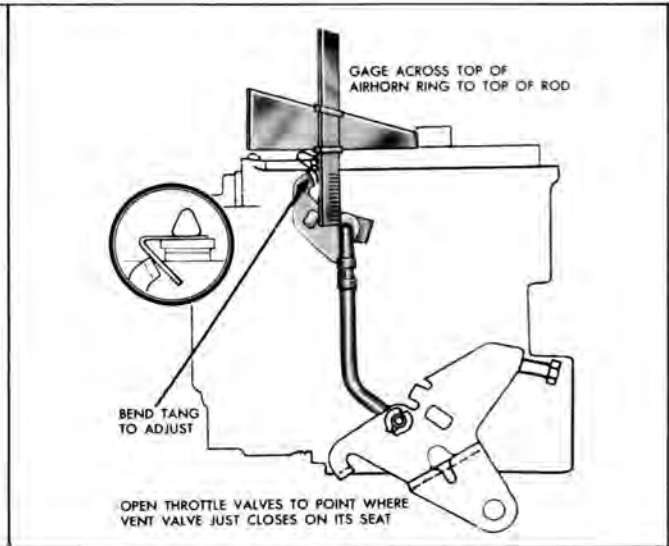

Fig. 12
3. To adjust, bend vent valve actuating tang on the pump lever up or down to obtain specified dimension, Fig. 12.